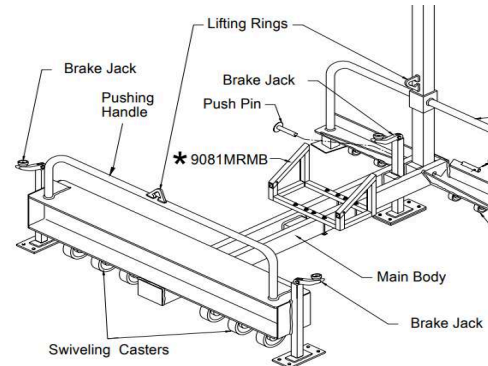

Figure 4
- Once the installation and working distance requirements are understood and have been satisfied, lower each of the brake jacks completely by rotating the brake jack handle clockwise until each stops rotating. Be sure to lower completely. Failure to do so could hinder the performance of the unit in the event of a fall and may cause serious or fatal injury. (Fig. 4)